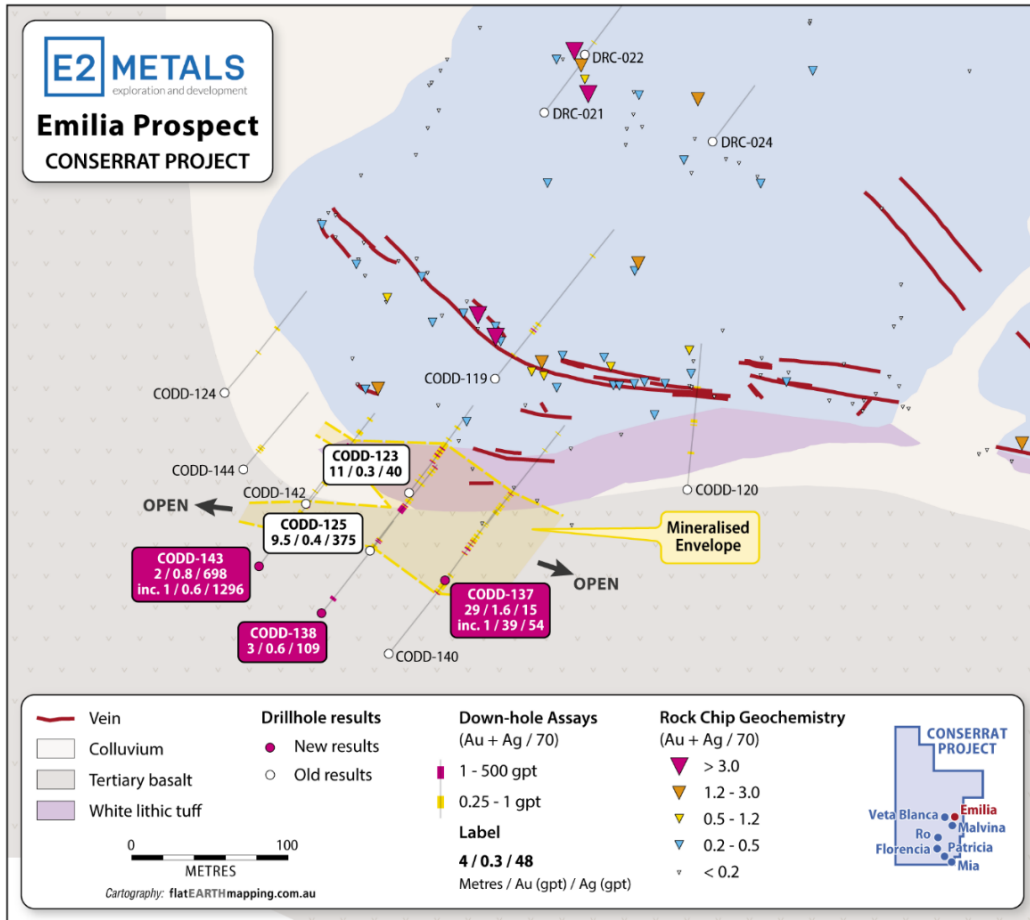

Figure 5: Emilia drill holes and results
A further seven (7) holes for 819m (see Figure 5) were completed at **Emilia** to better define the structural and geological controls to mineralisation, which were unclear. All holes were drilled in a fence configuration on four sections spaced 50m apart.